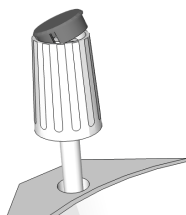

Figure 1. Step 2
2. If the device is equipped with push-rotary knob, take it's plastic cap off to expose the flat screw. (see figure 1).